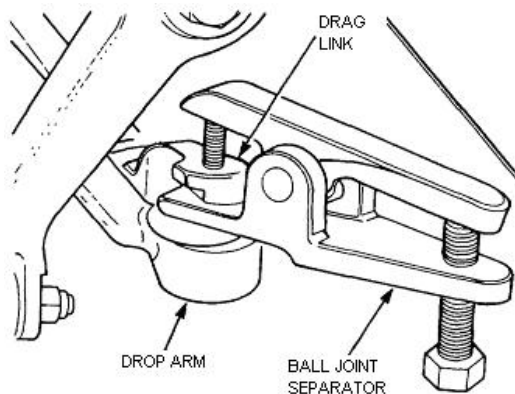

Figure 139 Drop Arm Ball Joint Disconnection
- g. Using the ball joint separator (Table 3, Serial 13), disconnect the drag link (Figure 139).